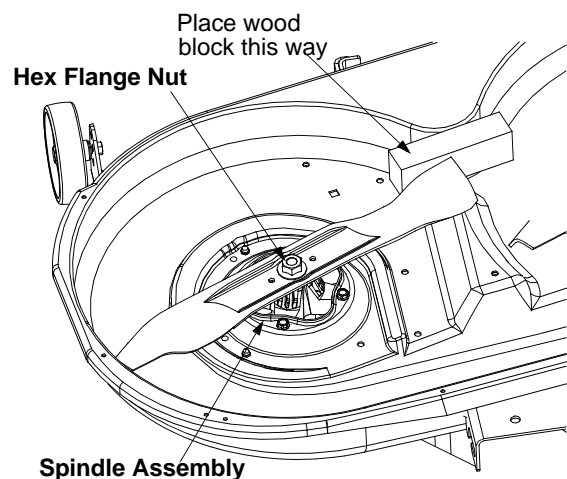

Figure 1
- Place a block of wood between the center deck housing baffle and the cutting blade to act as a stabilizer. See Figure 1.